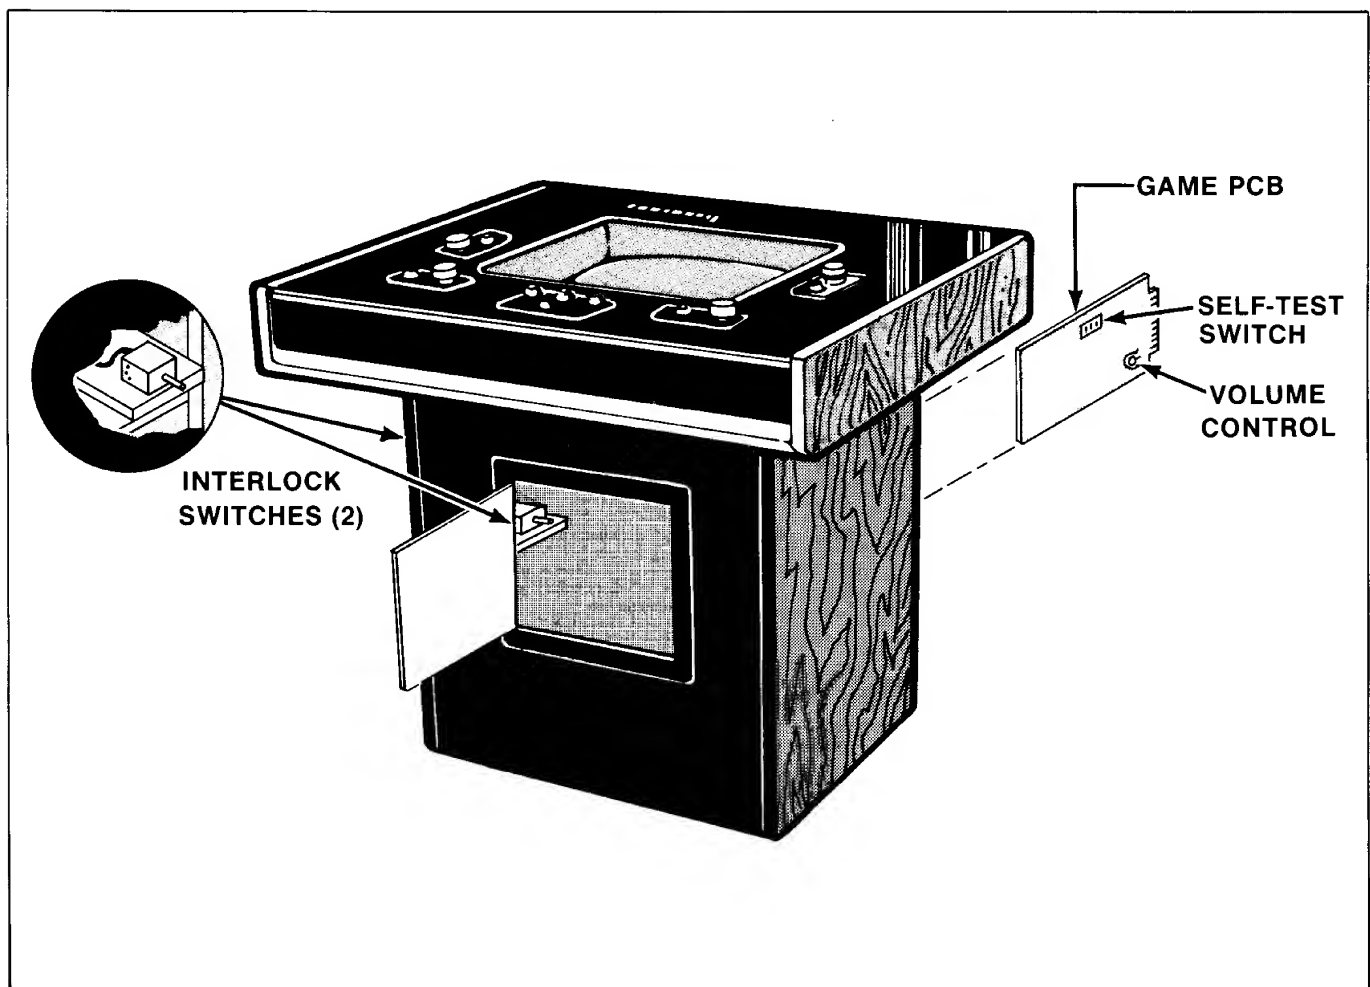

Figure 1-3 Location of Interlock Switches, Self-Test Switch, and Volume Control
To minimize the hazard of electrical shock while you are working inside the game cabinet, an interlock switch has been installed at the rear door assembly and at the coin door. These switches (2) remove all power from the game while one or both of the doors are open. Refer to Figure 1-3 for switch locations.
To adjust the volume it is necessary to remove the rear door assembly and locate the game PCB on the right side of the cabinet wall. The volume control may be adjusted without removing the PCB from the cabinet. See Figure 1-3 for location of the volume control.
Tournament Table will test itself and provide data to demonstrate that the game's circuitry and controls are working properly. The self-test procedure uses the TV monitor and the speaker; no additional equipment is required. The self-test switch is located on the game PCB, as shown in Figure 1-3. (The rear door assembly must be removed whenever it is necessary to work with the PCB.)